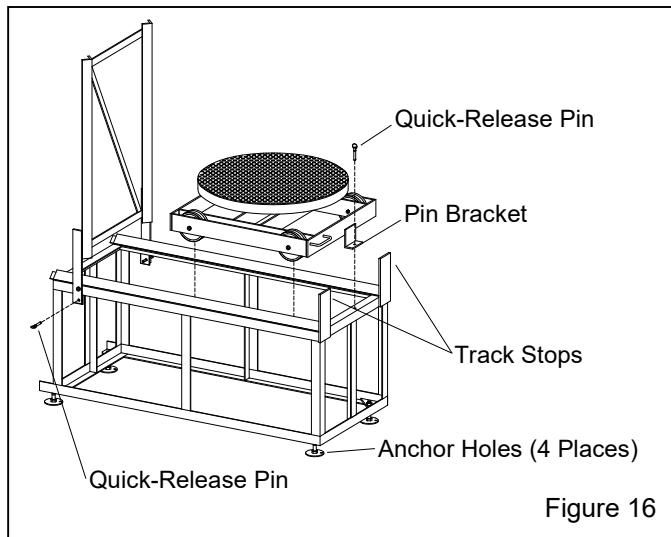

Figure 16
3.4.4.4 The quick-release pin holds the hinge track when in the raised position, as shown in Figure 16.
3.4.5 Turntable workcar and hinge-track operations Figure 16